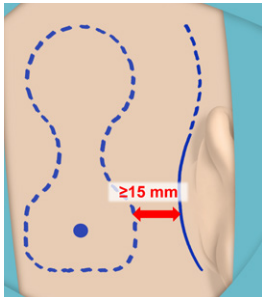
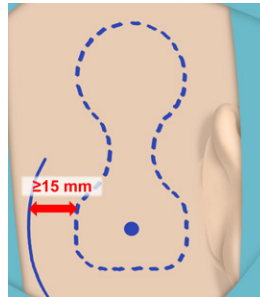

Fig.9: Post-auricular incision with superior extension
Fig.11: Posterior C-shape incision
5. Fig.9–Fig.11 show possible incision options. Other variations are possible and depend on the patient's anatomy. Independent from the incision method, it is important to have a distance of 15 mm or more between the incision and the edge of the implant to avoid tension on the skin and possible post-surgical complications.